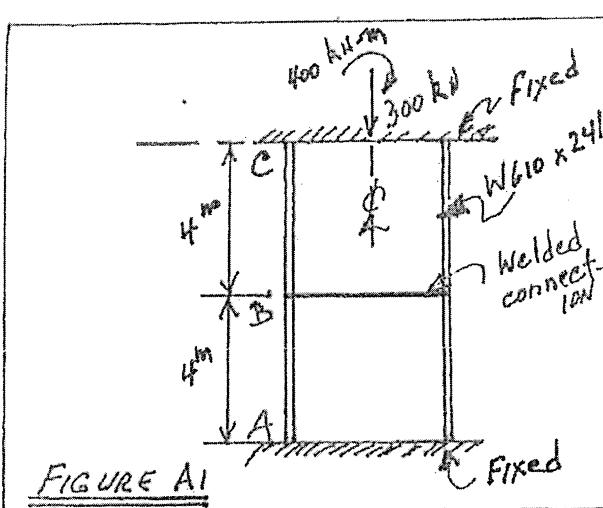

FIGURE A1
- A1. The rigidly connected steel column, W610 x 241, of G40.21 300W is made up of two equal lengths, AB and BC, as shown in Figure A1. Design a welded rigid connection at B for the given loads.